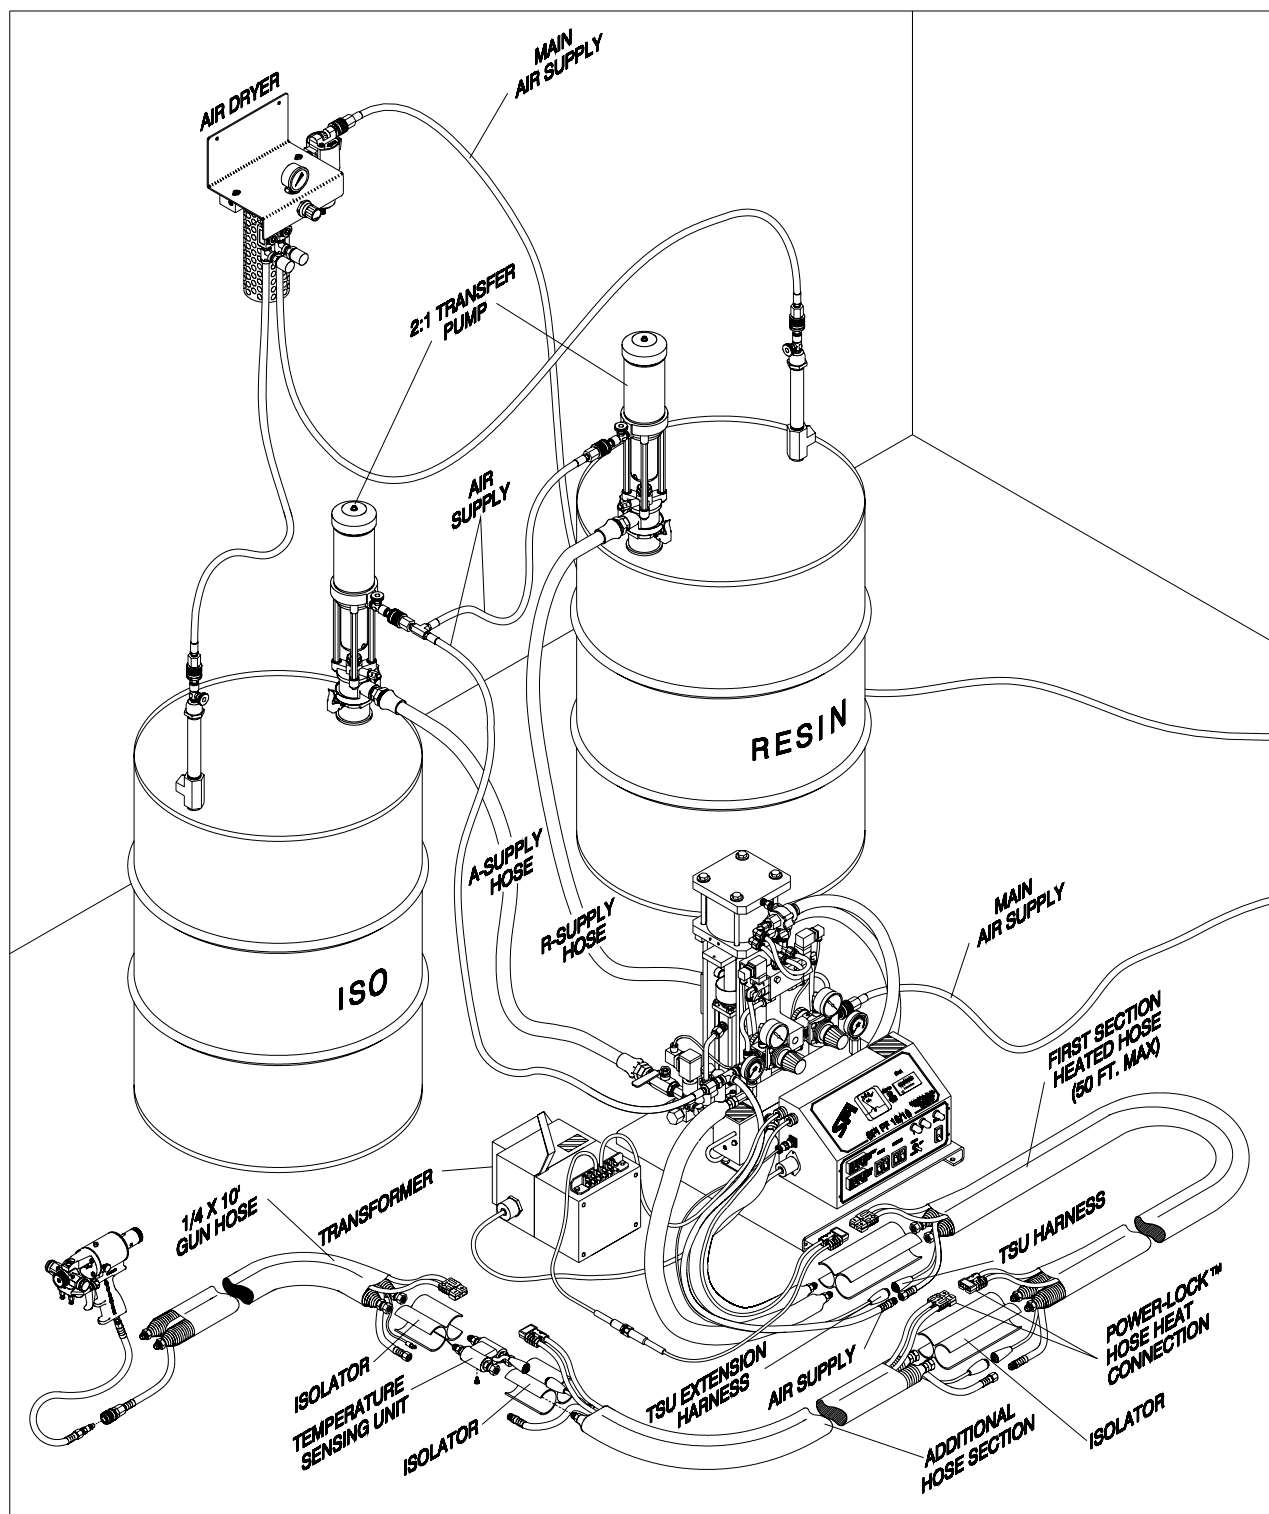

Figure 2. Typical FF 18/18 Installation
* Refer to Figure 2 for additional parts required for set-up.